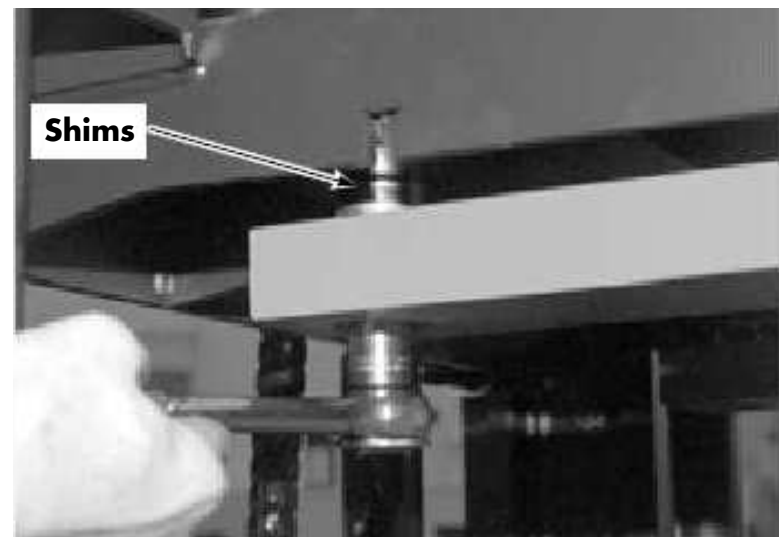

Figure 7-183. Installing Forks and Shims
4. Install correct amount of washers or shims at back side of fork to maintain a level fork. See Figure 7-183.